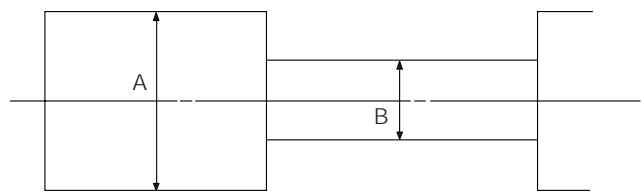

Fig. 4-5-11 Envelope Output and Output Level
The video envelope should meet the specification as shown in Fig. 4-5-11. In SP mode, (A) should equal (B).